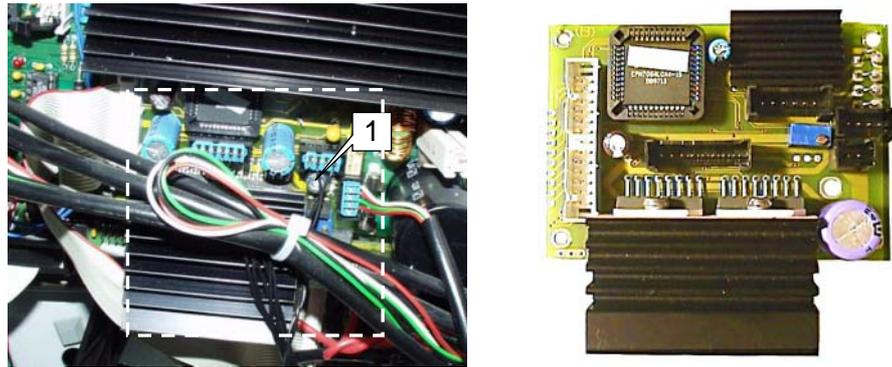

Fig. 3 Left hand side: Dispenser board assembled (dashed frame); Right hand side: Dispenser board. .
- *Dispenser board* (only for the dispenser version of the TTX x50, see Fig. 3)